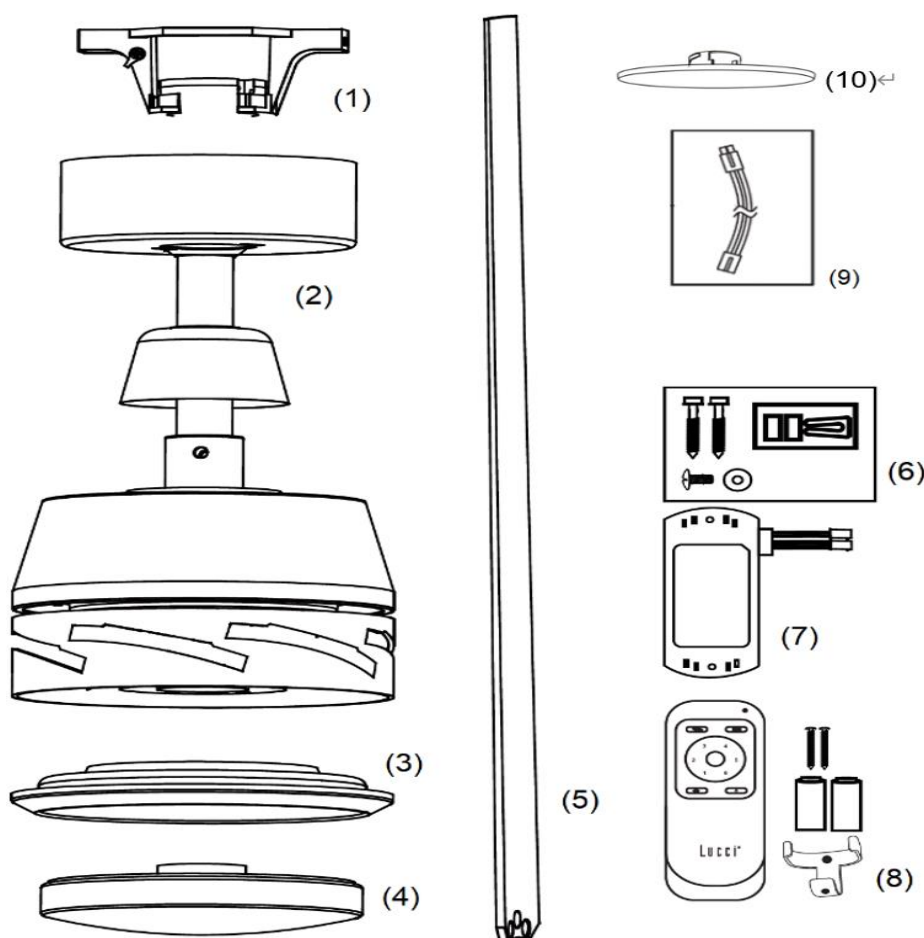

Fig. 1
- Examine all parts, you should have the following list and Fig.1:
Note: If a down rod extension is used, the Light kit extension cable (item 9, of Fig.1) is required.